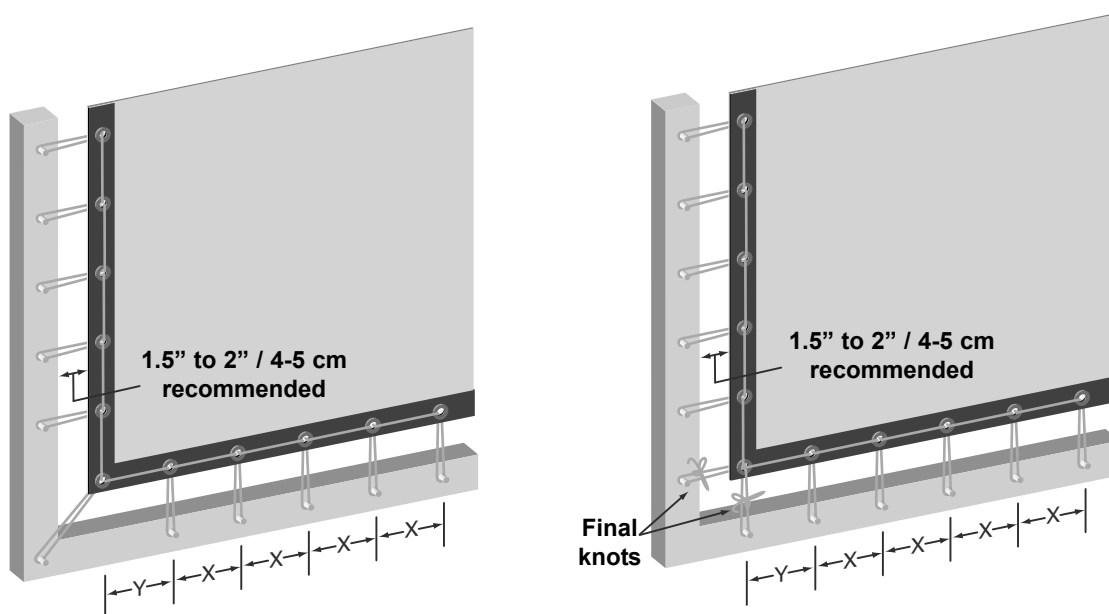

Figure 18: Proper methods of T-lacing
1. Using the lace cord provided, lace the screen corner into pegs at the top left, and continue along the top towards the center using the T-lace method. Refer to Figures 18 and 19. The screen center line is marked with a red grommet at the frame center. Continue unrolling towards audience right. Make sure that the screen is centered in the frame.